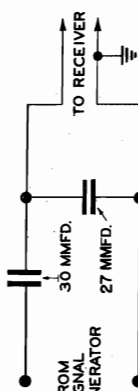

Fig. 9. Dummy Antenna
- 3—Connect signal generator leads through dummy, illustrated in Figure 9, to antenna receptacle on the receiver.
Fig. 9 shows the schematic of a recommended dummy antenna, closely resembling actual antenna capacity, to be used in series with signal generator leads when aligning the R.F. section of the receiver.
- 1—Connect signal generator leads through dummy, illustrated in Fig. 9, to antenna lead in socket on receiver.